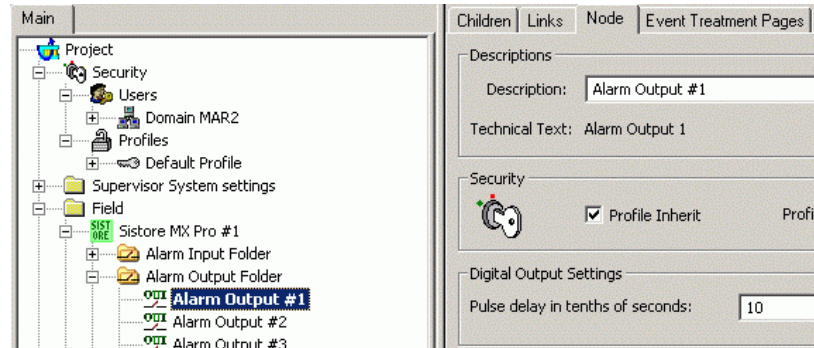

Fig 23 Configuring SISTORE alarm outputs
5. Set the pulse duration in tenth of sec (Fig 23).